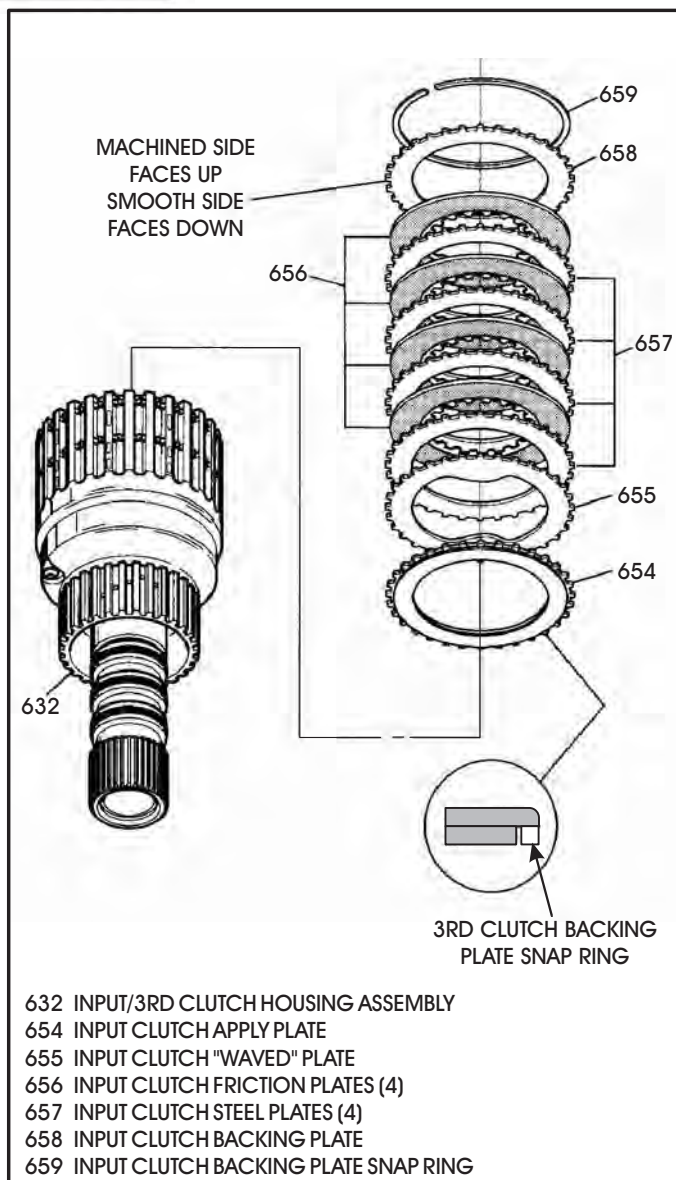

Figure 123
26. Install the input clutch apply plate into the input/3rd clutch housing with the notched side facing down against the 3rd clutch snap ring, as shown in Figure 123.
27. Install the input clutch "Waved" plate into the housing, as shown in Figure 123.
28. Install input clutches into housing beginning with a steel plate and alternating with a lined plate, until you have installed four of each, as shown in Figure 123.
29. Install the input clutch backing plate with the smooth side facing down (See Figure 123).
30. Install the input clutch backing plate snap ring, as shown in Figure 123.